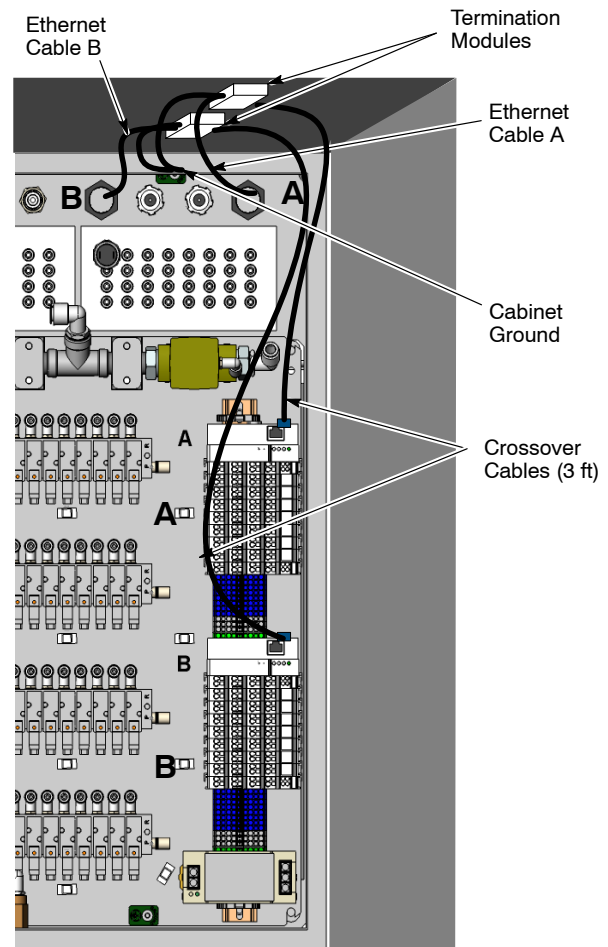

Figure 14 Ethernet Cable Termination Inside Color Control Panel
11. See Figure 14. Install the termination modules under the top side of the enclosure.